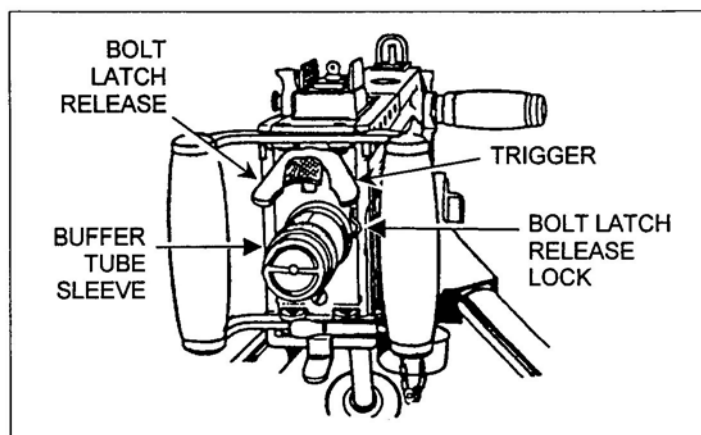

Figure 3. Releasing the bolt latch.
- (1) Ensure that the bolt is forward and the bolt latch release is unlocked (in the single shot mode) (Figure 3).